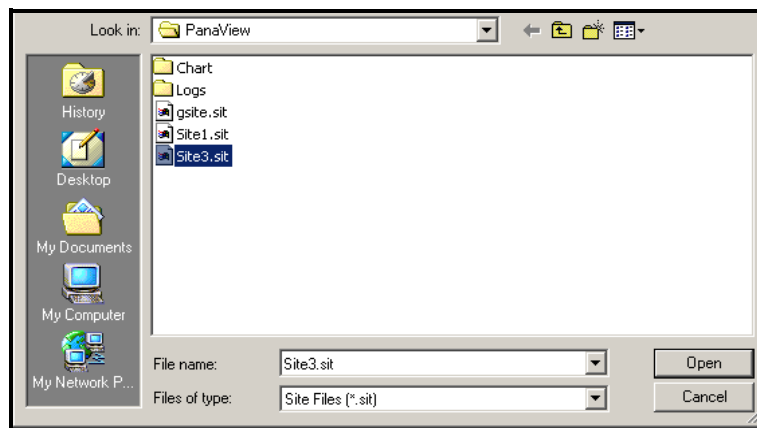
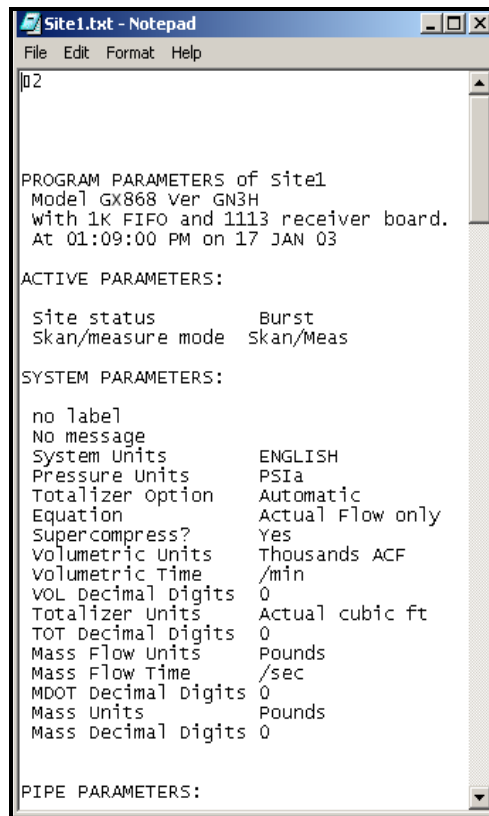

Figure C-15: Site File Selection
Figure C-17: Printout of Site File
2. Then click on the Save Site to Meter button. A screen opens similar to Figure C-15 below.
3. The *Site File Selection* window (Figure C-15 on page C-12) opens. Highlight a site with the desired settings, and click [Open]. PanaView saves the site in the meter with the new name and the desired settings.
3. The *Site File Selection* window (Figure C-15 on page C-12) opens. Enter the desired site name (now with a .prt suffix) and click [Save]. PanaView displays a text version of the site, as shown in Figure C-17 below.